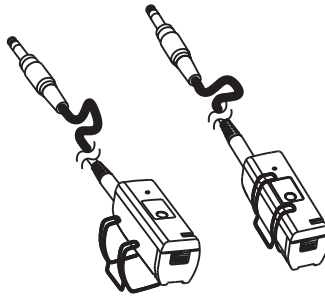

Fig. 11-3
- (C) Install the clip on MT-58, Fig. 11-3.